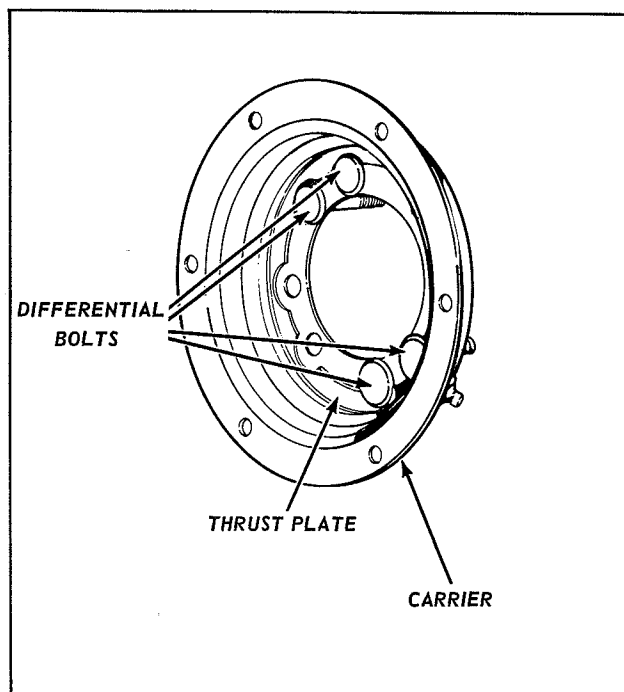

Figure 5
4. Install the thrust plate in position in the carrier as shown in Figure 5. Note that the thrust plate has several half-moon cutouts around its inside diameter to allow for positioning over the heads of the differential bolts. Assemble the carrier to the cover assembly and fasten with 6 hex bolts, lock-washers and hex nuts, being careful not to disturb the alignment of ring gears during assembly.